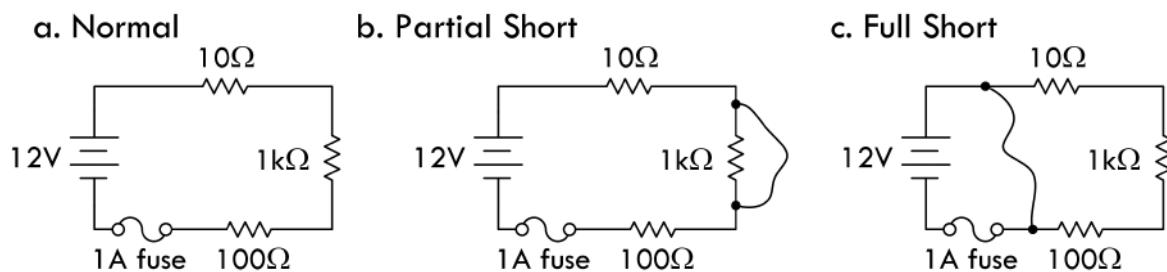

FIGURE 2.60
*Example 1:* In the series circuit in Fig. 2.60, determine how much current flows through the normal circuit (a), then determine how much current flows when there is